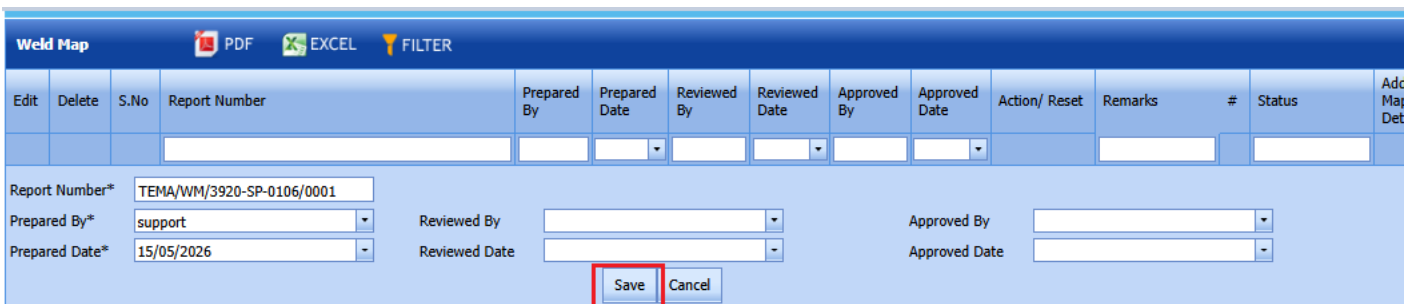

Figure 6.7: Weld Map page
1. Click **weldmap** menu See Fig 6.7.
1. Click **Edit** icon in the **Edit** column for the respective weld map. See Fig 6.7.